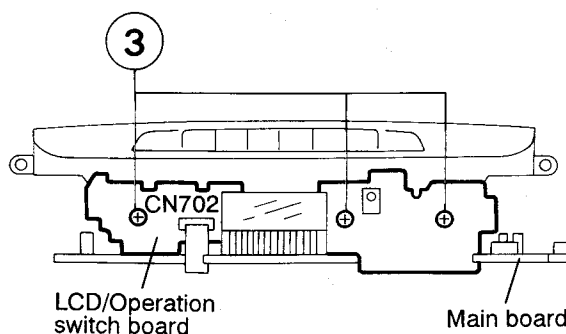

Fig. 5-11
3. Remove the three screws (3) retaining the LCD/switch board (See Fig. 5-11).